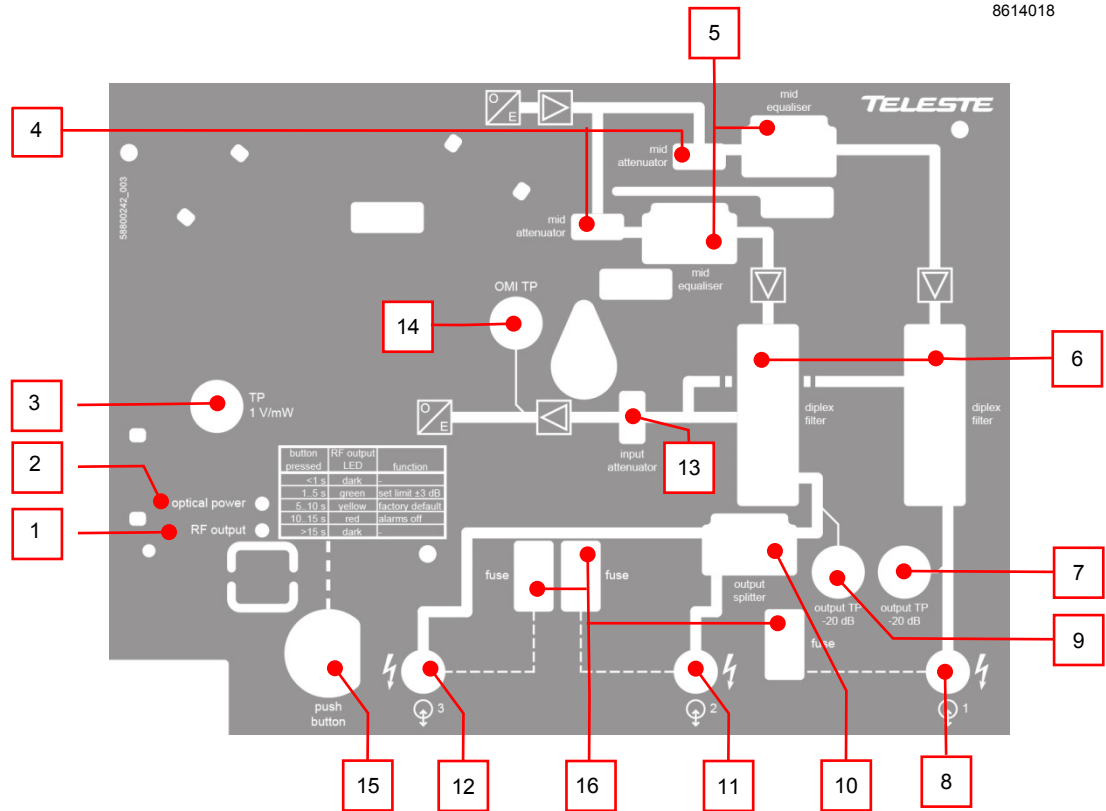

Figure 7. AC810 front panel
The supply voltage of the remote powered node (27...65 V AC or $\pm 33...90$ V DC) can be fed through either output ports (Figure 7 pos. 8, 11 and 12) fused with common blade-type 15 ampere fuse (Figure 7 pos. 16). When a cable connection is used for powering, the maximum supply current is 7.0 A.
If needed, the RF output power alarm limits can be set to match measured RF output power with > 2 s pushbutton (Figure 7 pos. 15) press. Factory default alarm limits can be restored with > 5 s pushbutton press. RF output measurement can be disabled with >10 s pushbutton press.
Optical input power can be measured from the optical power DC voltage test point (Figure 7 pos. 3). The test point DC voltage is directly proportional to optical input power in mW e.g. 1.0 V corresponds to 1.0 mW average optical power. In case of 1310 nm wavelength selection the input power in dBm (W) can be calculated by the following formula. Subtract 0.5 dBm from the result in case of 1550 nm.
The interstage attenuators (Figure 7 pos. 4) and equalisers (Figure 7 pos. 5) should be selected according to a network plan and desired output levels.
A diplex filter (Figure 7 pos. 6) is selected during configuration according to the preferred frequency split.
The return transmitter is aligned in production eliminating the need for any user adjustments. The level of return signal can be measured from the optical transmitter's OMI test point (Figure 7 pos. 14). The return signal level should be adjusted to match wanted level. Table below shows the RF drive levels for different OMIs. The signal level is adjusted with the return path attenuator (Figure 7 pos. 13).